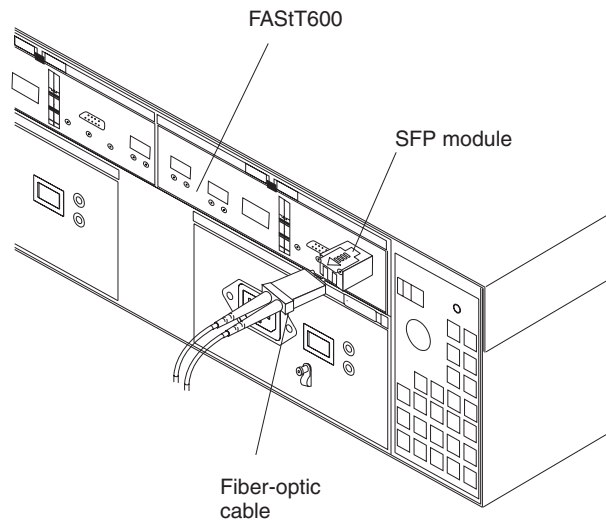

Figure 32. Connecting cables to the installed SFP
2. Connect the fiber-optic cable to the installed SFP, as shown in Figure 32 on page 39.